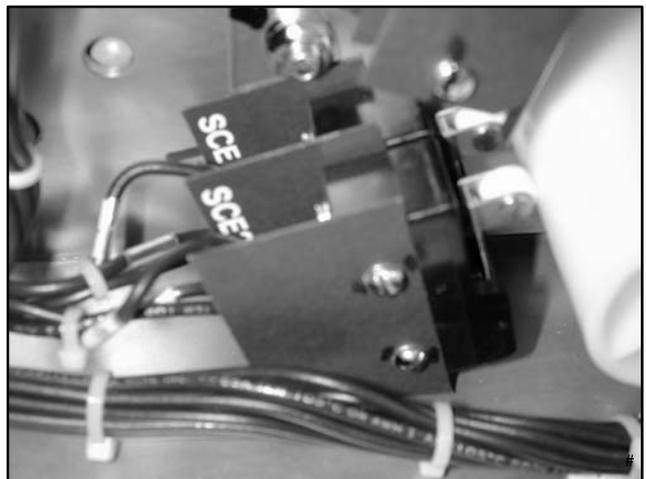

Figure 5-5 Microswitch Holding Screws
7. Remove the microswitch holding screws. See Figure 5-5.